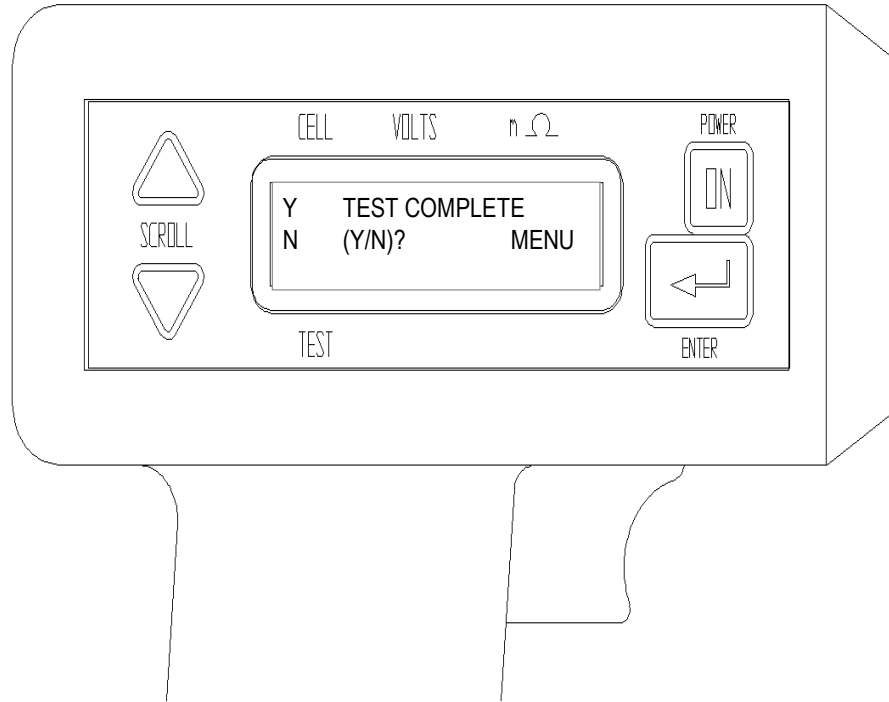

Figure 4-8: Receiver menu
1. Suppose that the following Menu is displayed on the screen as shown in Figure 4-8.